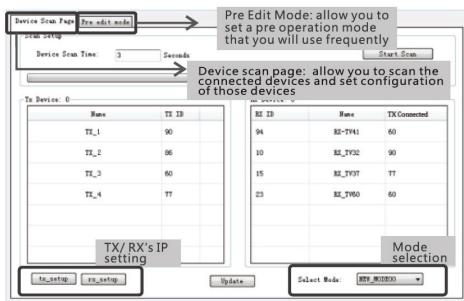

Figure 1
- Open the application downloaded earlier, the interface is displayed, see Figure 1.